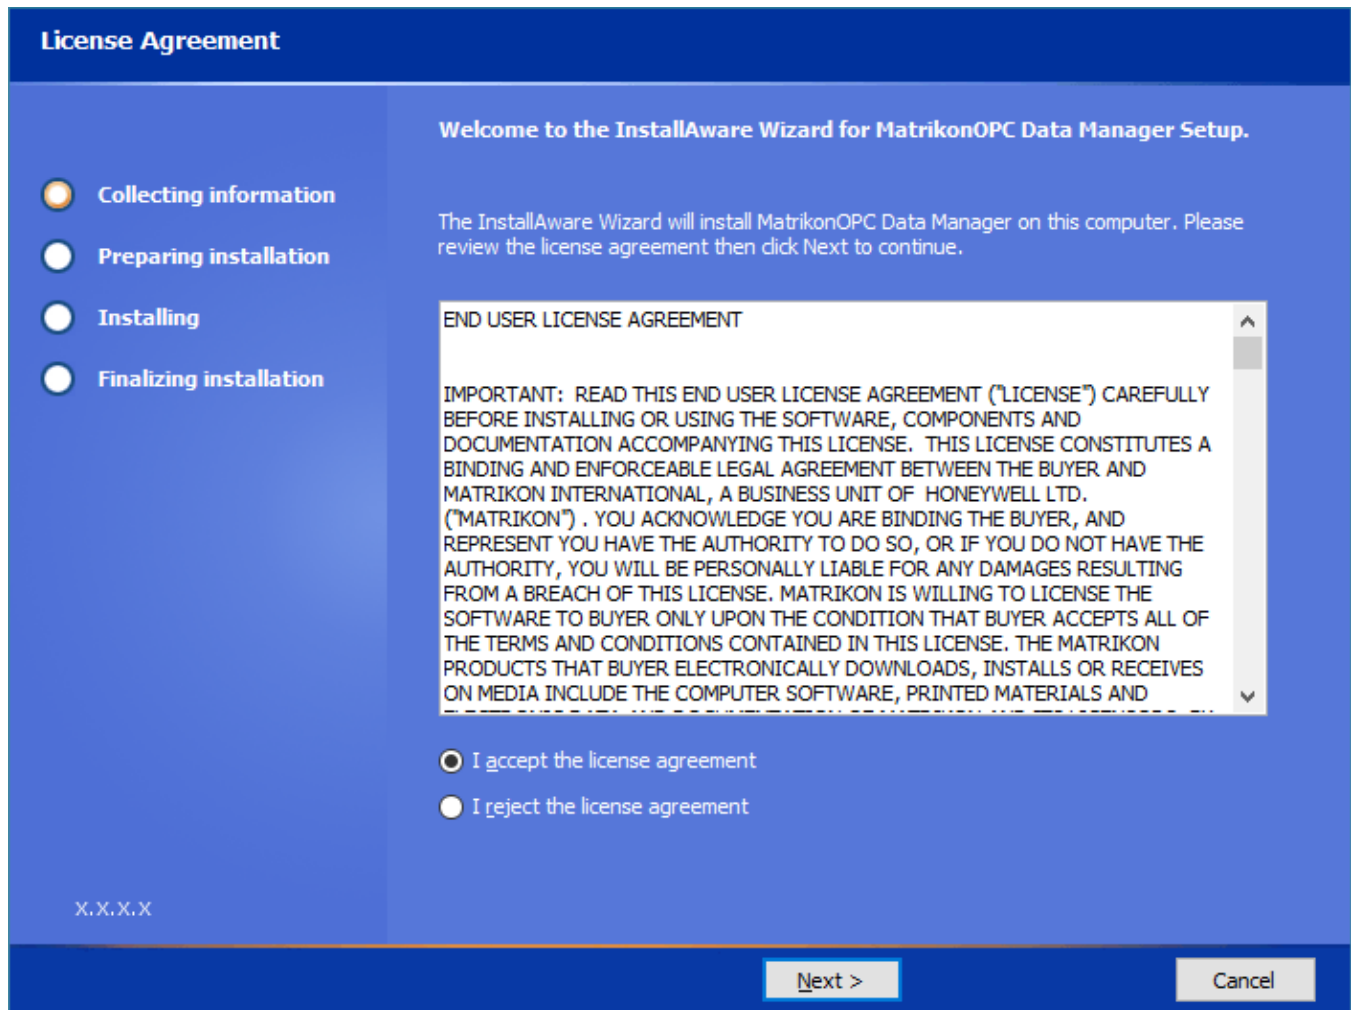

Figure 5 - License Agreement Screen
3. Click on the **Next** button. The **License Agreement** screen (Figure 5) appears.